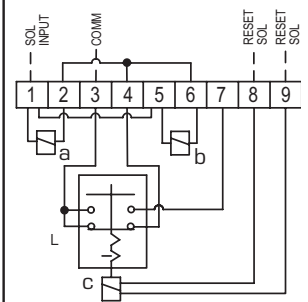

Figure 4b – Single Input Wiring Diagram with Pilot Solenoid Circuit Completed
**Warning:** The wiring in the single-input product depicted in Figures 4b and 5b must be connected as shown. Using more than one input or connecting the input other than as indicated could result in personal injury and/or property damage.